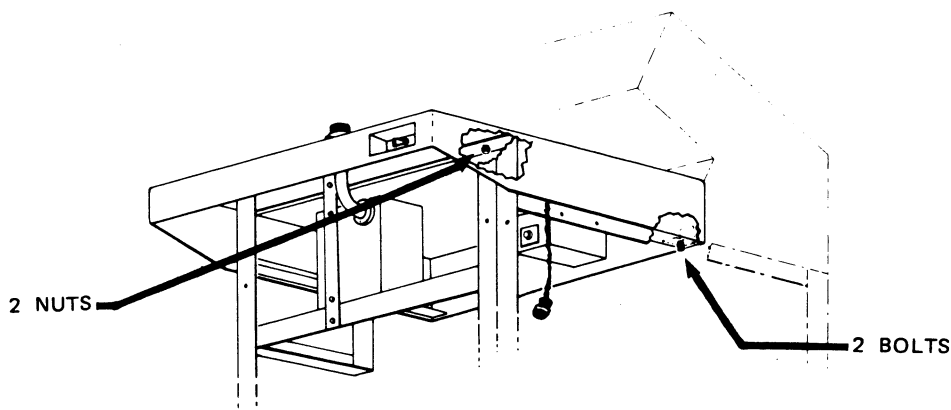

Figure 6-6. Removing Stainless Steel Counter Top
1. Plug the test port, then turn PUMPING MODE switch to the SERVICE PUMP position. (Figure 6-6 shows valve positions.)
11. Remove stainless steel counter-top. (See Figure 6-6).
- b. Using 7/16-inch socket wrench, remove the two nuts in the front top frame member and the two bolts at the rear of the side frame members (Figure 6-6).